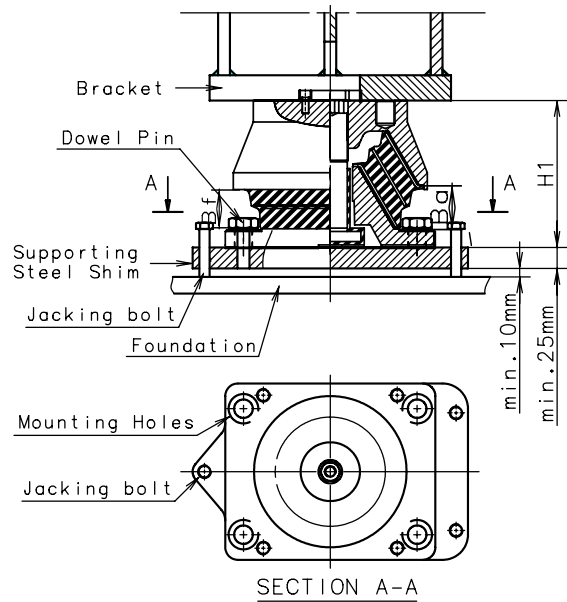

Fig. 2
- Fix the top casting(5) to the bracket of base frame by using 4 bolts.
- Remove Protection cap and loosen fixing bolt(6), spring washer(5) and top lock ring(4).
- Install the jacking bolt at tapped hole. At this time, it is recommended that the distance between the foundation and resilient mounting be more than at least 10mm. (Fig. 2)
6. Measure the height of each conical mounting after min.48 hours to ensure that resilient mounting is fully deflected. (Fig.2)